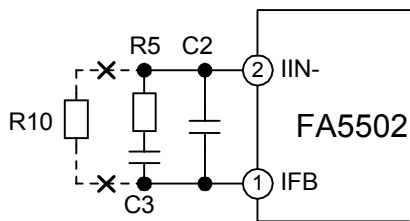

Fig.22 Prevention of overvoltage at light load
- As shown in Fig.22, DC gain limiting resistor R10 for current error amplifier must not be connected between IFB pin (pin 1) and IIN- pin (pin 2).